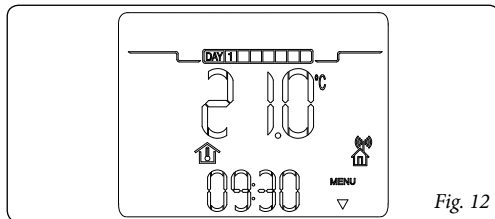

Fig. 12
- **Stand-by/anti-freeze mode (*).** In this mode, the boiler can only function in the event of anti-freeze request. In this state, the day, current time, any functioning anomalies and the room temperature are displayed (fig. 12).